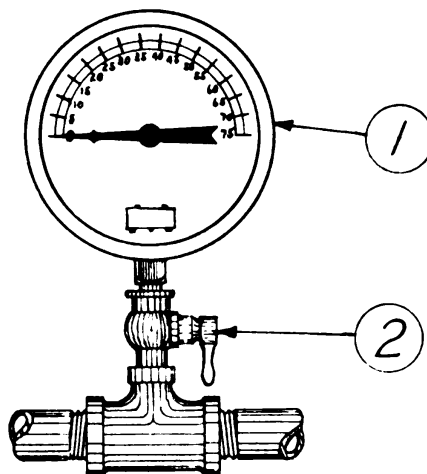

FIG. 17 - FUEL PRESSURE GAUGE.
A pressure gauge, located in the fuel line close to the left hand burner (looking at the burner end of the dryer) is provided for the purpose of showing the fuel pressure to the burners. The gauge (1) Fig. 17 is of the dial type with pointer hand at the center of the dial. The dial face is graduated to show the number of pounds per square inch of fuel pressure.
A shut-off cock (2) Fig. 17 is provided for opening or closing the fuel passage to the gauge. The life of the gauge will be lengthened considerably if the cock is open only when necessary to determine the amount of fuel pressure, and left closed at all other times. This reduces the wear on the internal mechanism caused by extreme pressure fluctuations, vibration, and starting pressures.